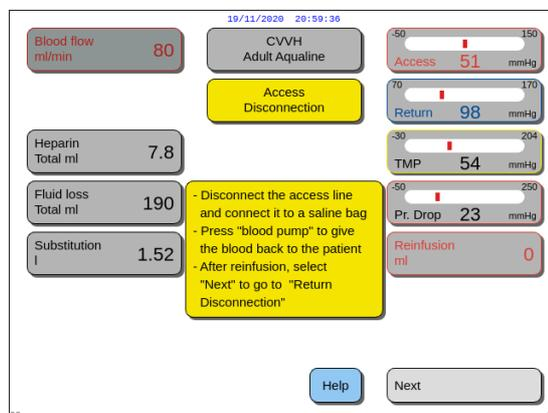

Fig. 179
- 6. When satisfied with the *Reinfusion*, select and confirm the *Next* function (Fig. 179).